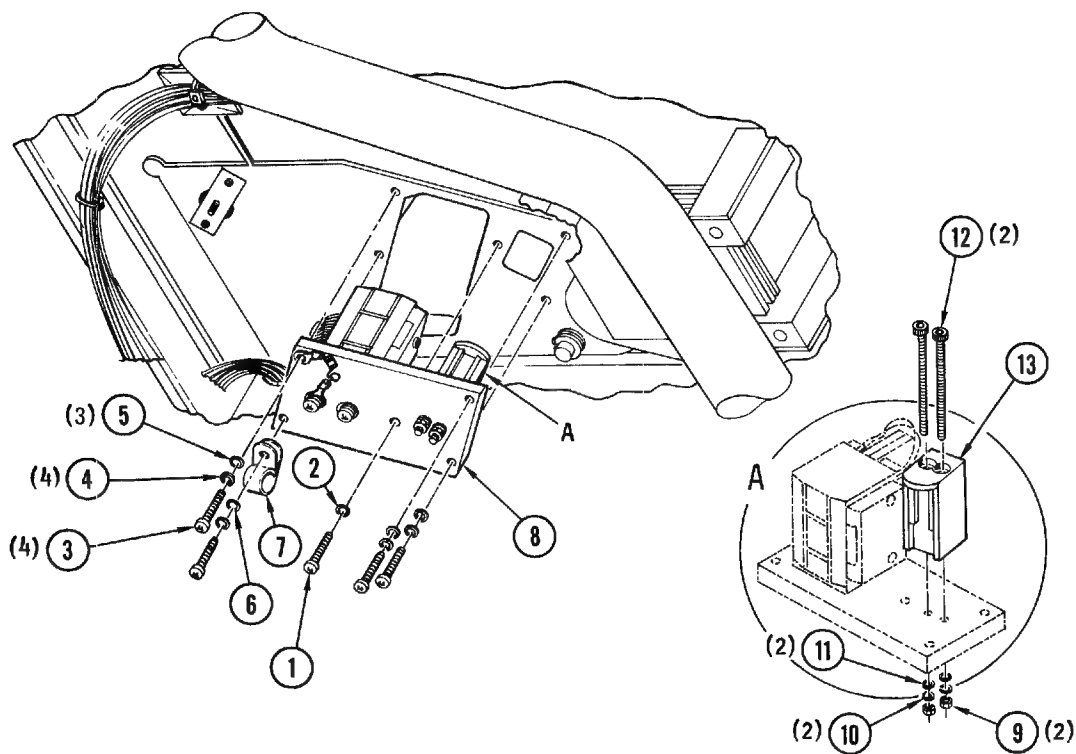

Figure 4-10. Head Assembly
4-24. **Removal and Replacement of Assembly and Parts (Figure 4-10).** Place the transport in service access position in accordance with instructions in paragraph 4-3 and proceed as follows:
It is not necessary to remove complete assembly from top plate in order to remove tape scraper (13, Figure 4-10). Refer to paragraph 4-24, f. If head is defective and in need of replacement, entire head assembly (8), including tape scraper (13) must be replaced.
- b. Working from under side of top plate, remove center adjustment screw (1), flat washer (2), four screws (3), and lockwashers (4), three flat washers (5), one flat washer (6), and cable clamp (7) supporting assembly (8) with one hand as last screw is removed. Identify wire terminal and cable clamp as to position from which removed, and save attaching parts for reinstallation.
- c. Pull assembly (8) and wire harness carefully down through hole in top plate and cables over air intake tube.
- d. Install replacement assembly in reverse order of sequence in steps b and c, carefully pushing head and connectors through hole in top plate and attaching wire terminal and cable clamp in positions from which removed. Do not tighten center adjustment screw (1) at this time.
- f. If tape scraper (13) only is to be replaced, remove two socket-head screws (12), nuts (9), lockwashers (10), and flat washers (11). Save attaching parts for reassembly, and install replacement scraper in reverse order of removal.
- g. Adjust tape scraper (13) as follows:
- (1) Insert and load a tape.
- (2) Loosen socket-head screws (12) and move tape scraper away from tape.
- (3) Slowly move tape scraper toward tape until it contacts tape.